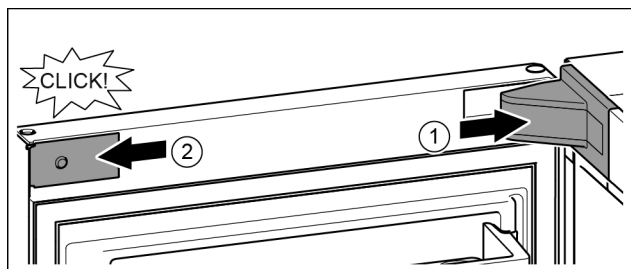

Fig. 25
- Position the bearing bracket and engage. If necessary push apart carefully. Fig. 25 (1)
- Position the panel on the side and click into place. Fig. 25 (2)